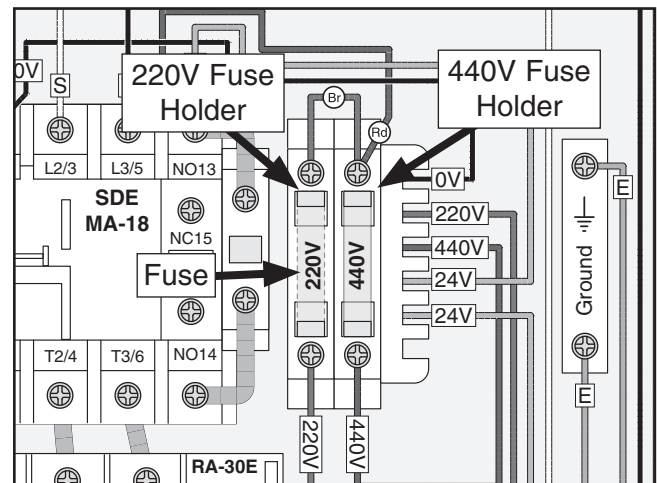

Figure 9. Moving fuse to "440V" fuse holder.
3. Remove fuse from "220V" fuse holder and insert into "440V" fuse holder (see **Figure 9**).